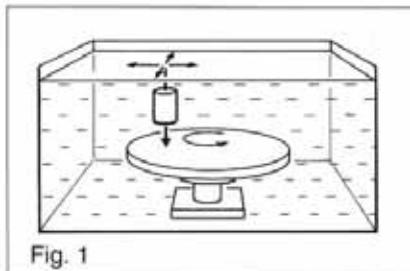

Fig. 1
*A major part of the tests is made in immersion tanks filled with water (fig. 1). In most of the cases, the test object is completely immersed and either solidly fixed or, according to shape and test task, is positioned onto a turntable or roller block and constantly moved past the probe.*